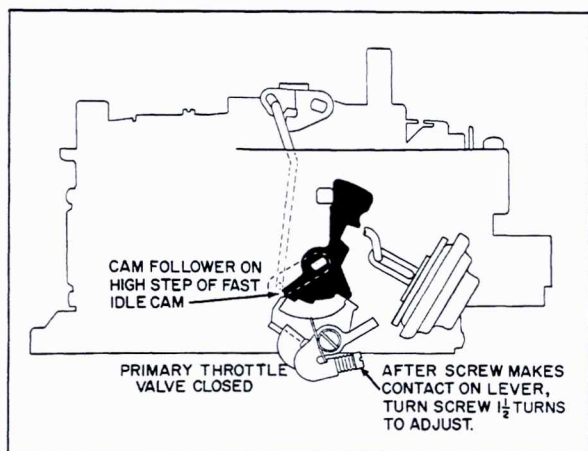

Fig. 6-77 Fast Idle Adjustment
80. Bench Fast Idle Adjustment (Fig. 6-77)
1. With primary throttle valves completely closed and cam follower over high step of fast idle cam, turn fast idle screw in one and one-half turns after screw makes contact on lever, Fig. 6-77.